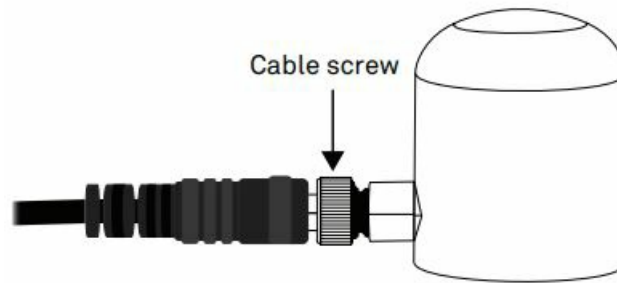

Figure 1 Attach M8 connector
2. Tighten the cable screw until hand-tight (Figure 1).